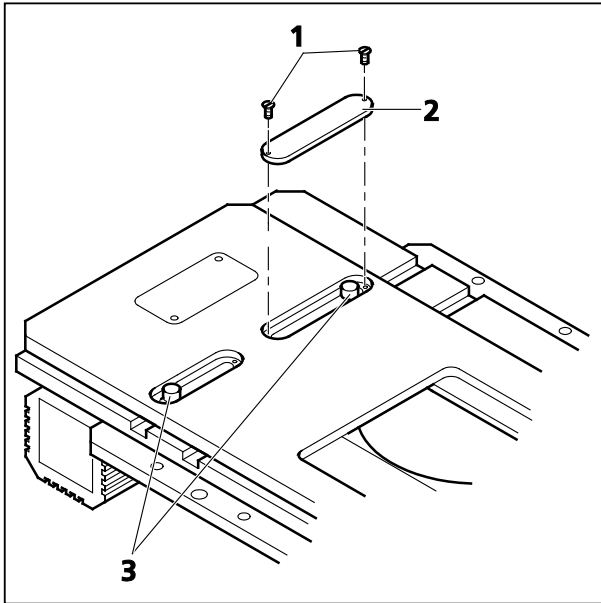

Fig. 24 Scanning stage 130x85 mot. P, CAN,
- To adjust the front or rear mechanical stops in Y direction, first loosen the screws (Fig. 24/1) at the covers on the top side of the stage and remove the covers (Fig. 24/2).
- Then loosen the stop screws (Fig. 24/3), move the stop as necessary and retighten the screws.